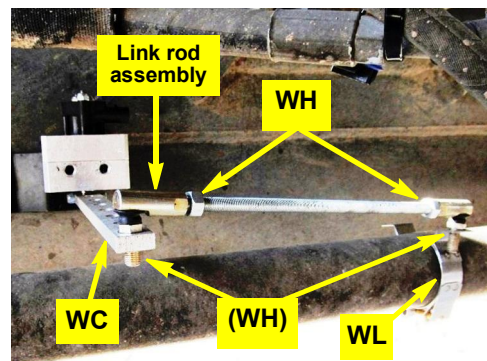

Figure 2d: WAS link rod assembly installed
- d. Using hardware **WH** (not visible), install the link rod assembly from step 1 between the last hole in connector arm **WC** and the forward flange of clamp **WL**. Set the swivel studs downward at both ends (Figure 2d). Leave swivel nuts **WH** loose.
- f. When the linkage does move freely and without binding, tighten hardware **WH** on the rod and the swivels (Figure 2d).